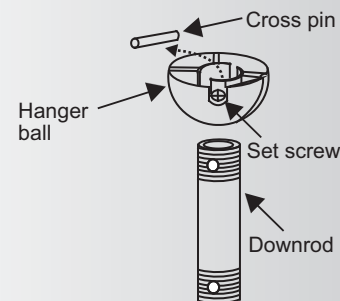

Fig. 7
Step 5. Remove the hanger ball from the downrod assembly by loosening the set screw, unscrewing and removing the cross pin and unscrewing the ball off the rod. (Fig. 7)